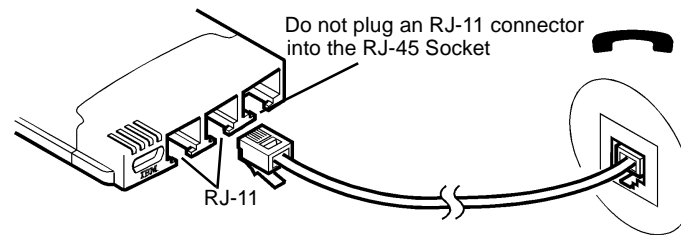

Figure 1-3. Connecting Modem to the Telephone Network (RJ-11)
Step 1. Attach an RJ-11 connector to the female receiver of the EtherJet CardBus Ready Port Adapter with Modem as shown in Figure 1-3.